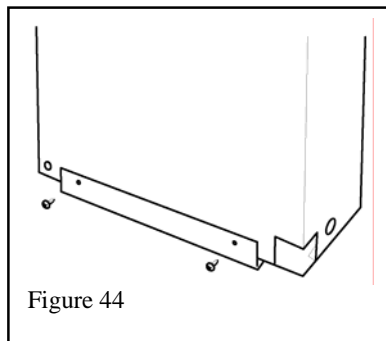

Figure 44
2. Fit the rear support channel under the rear of the appliance attaching it to the appliance back panel with two 3/8" thread cutting (pointed end) screws – see figure 44.